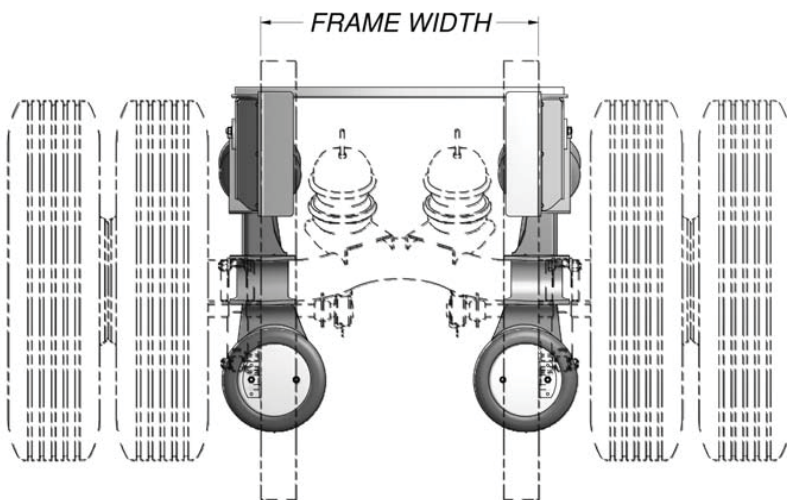

FIGURE 1
1. **Frame width** - All model RCA-215 suspensions can be configured to accommodate frame widths from 33.5 to 35.0 inches. Frame widths are set by the location to which the beam is welded to the axle. See **Figure 1**.